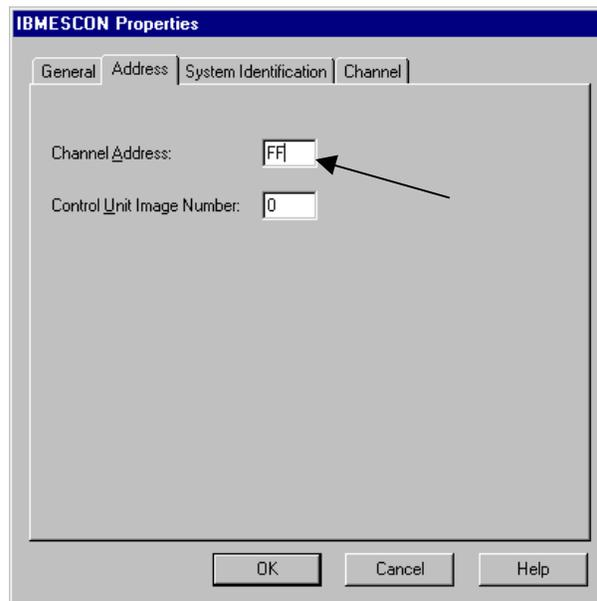

Figure 15-13. Channel (PU) Address]
3. On the connection properties verify the Channel Address (PU Address) matches that defined in the ESCON configuration and mainframe IOCP (Figure 15-13).